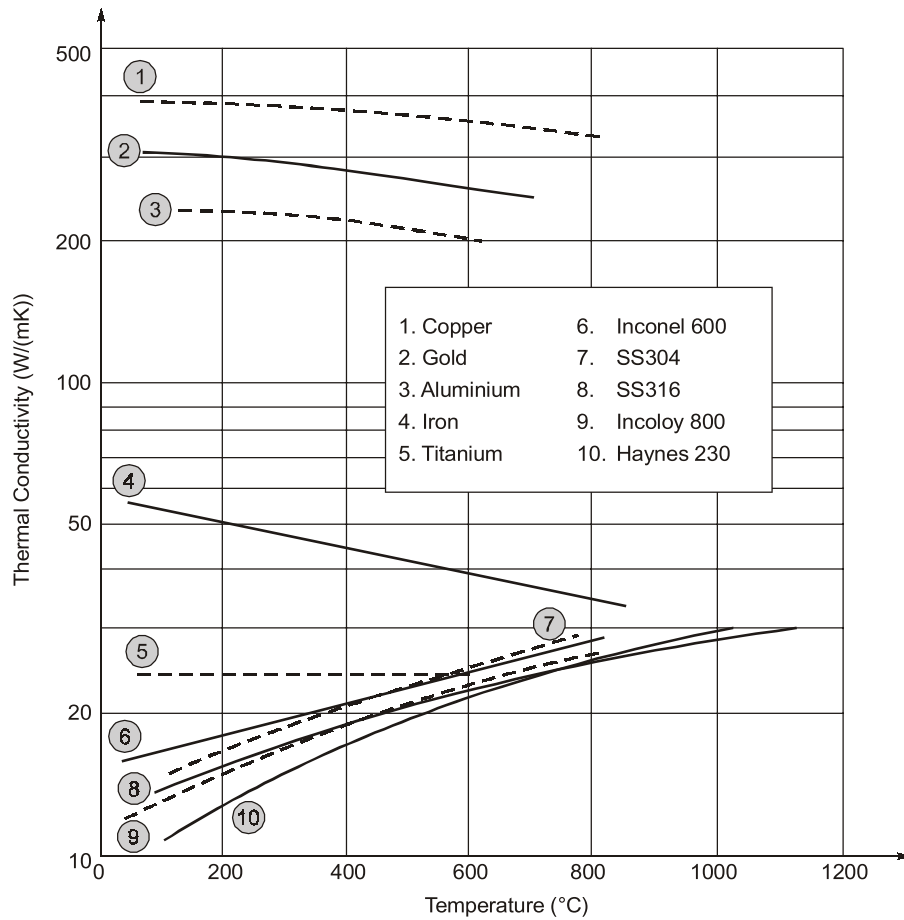

Figure 1.3 The variation of thermal conductivity with temperature for typical metals and their alloys
- Thermal conductivity of pure metals decreases with increase in temperature. (Refer to Figure 1.3)
- Thermal conductivity of alloys increases with increase in temperature. (Refer to Figure 1.3).